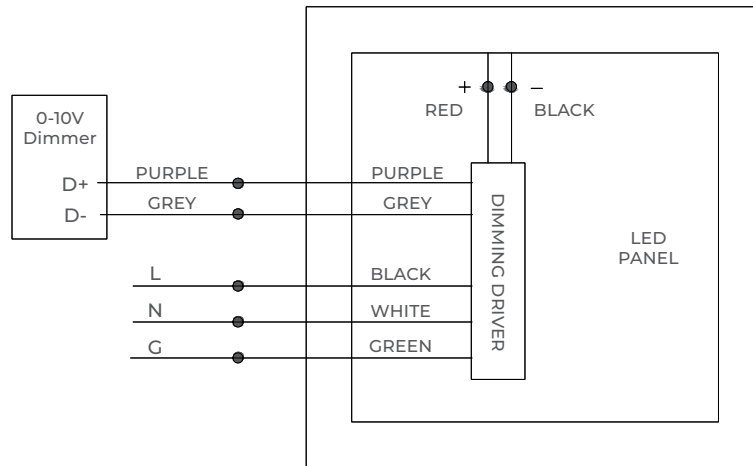

FIGURE 1
- Connect the wires with terminal cap as shown in wiring diagram (Figure 1).